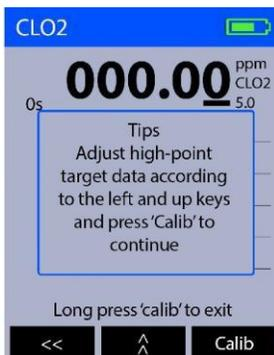

Figure 13.
2. Press **Cal/Sys** (OK) as needed to highlight **Slope-C**.
3. Press **OK** (>) to launch the calibration screen (Figure 13).